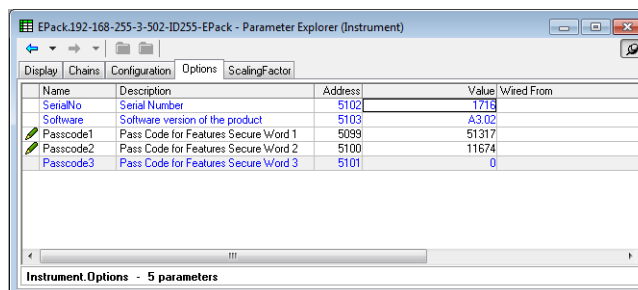

Figure 154 Instrument options configuration
1. Telephone the local Eurotherm Sales/Service agent with the serial number of the instrument to be updated, and the current software version. All required information (Serial Number, Software version, current features codes) can be found in Instrument Option folder using iTools (see Figure 154 below). This information can also be found through HMI in configuration mode 'Info' menu.